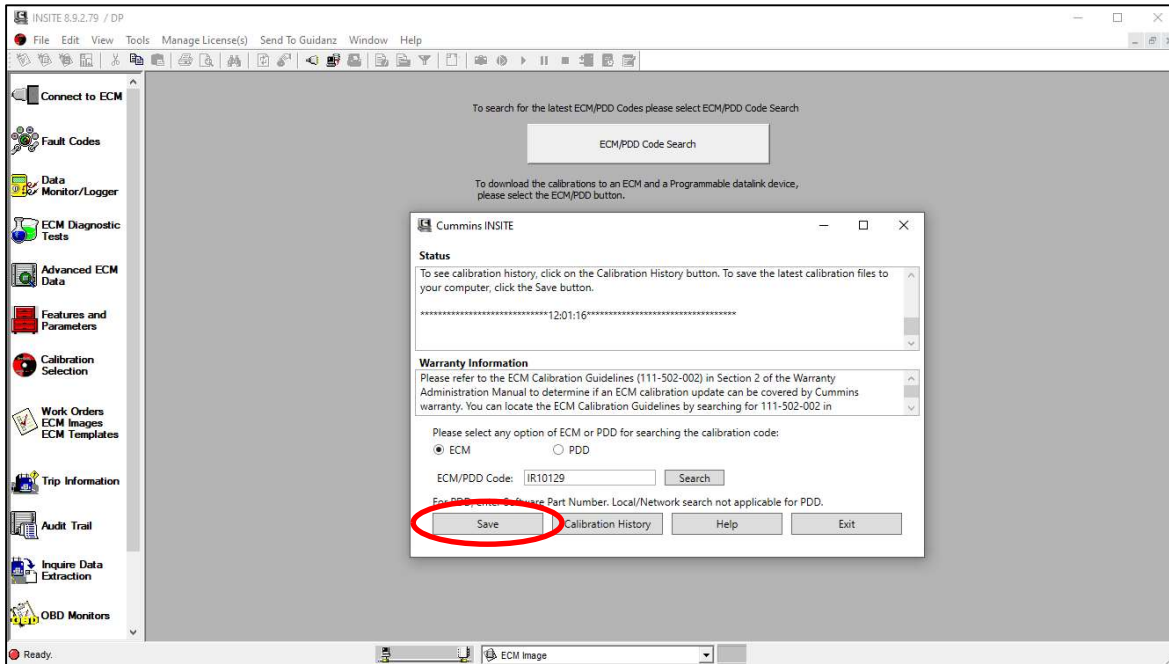

Figure 21
30. Select Save to download the calibration file to your laptop. See figure 21.